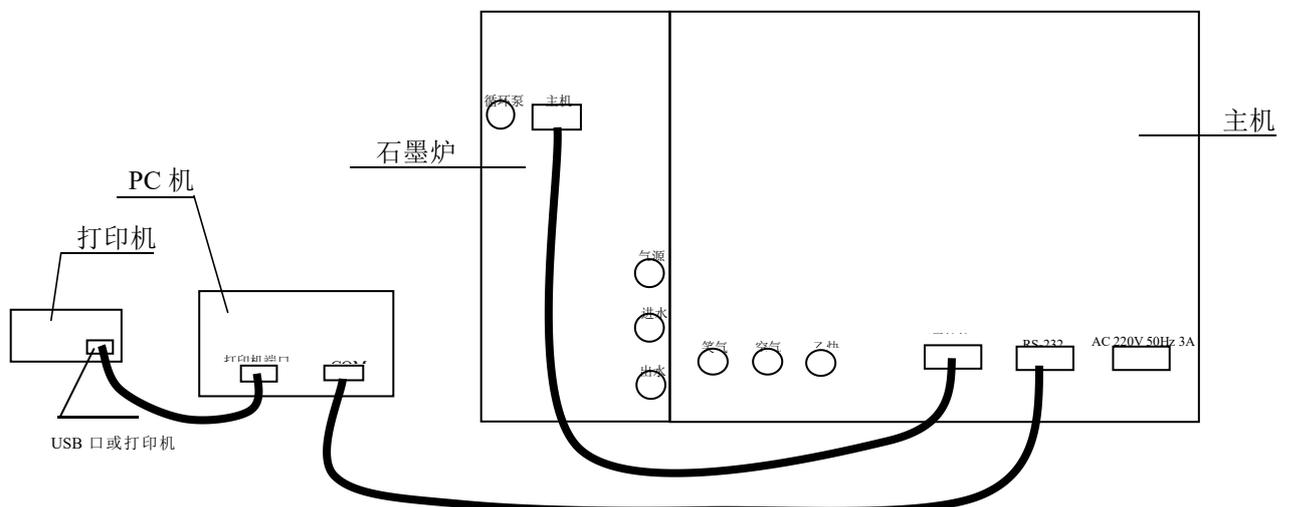

Figure 2-31
12. Screw the swing lock part(Figure 2-31)